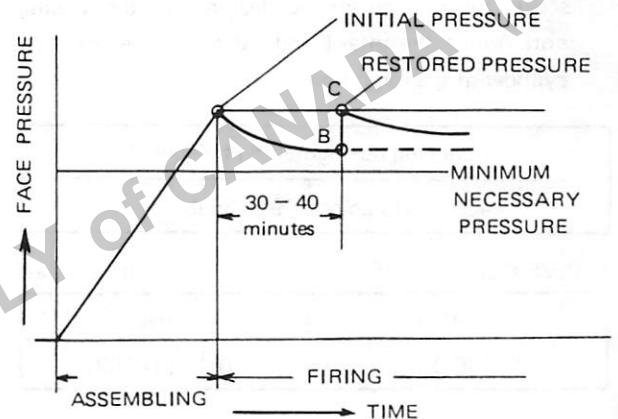

Fig. 3-2-48 Effect of retightening
3. By retightening, face pressure of cylinder head is restored from point B to C as shown in Fig. 3-2-48.